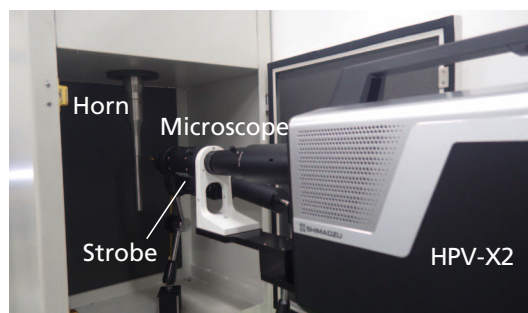
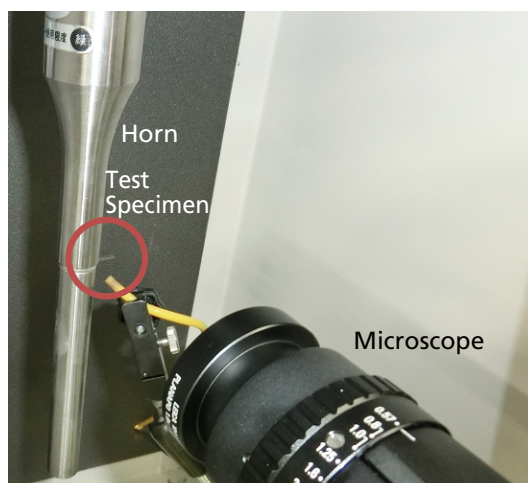
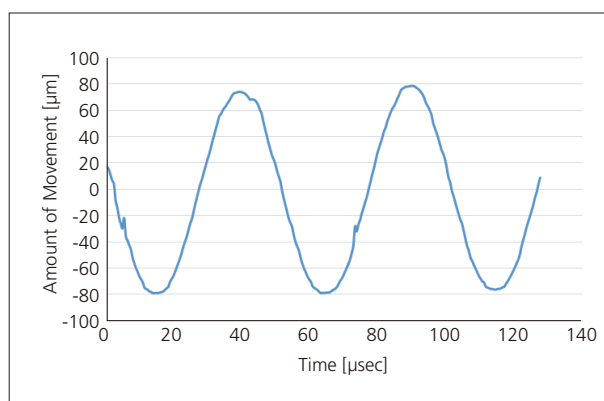
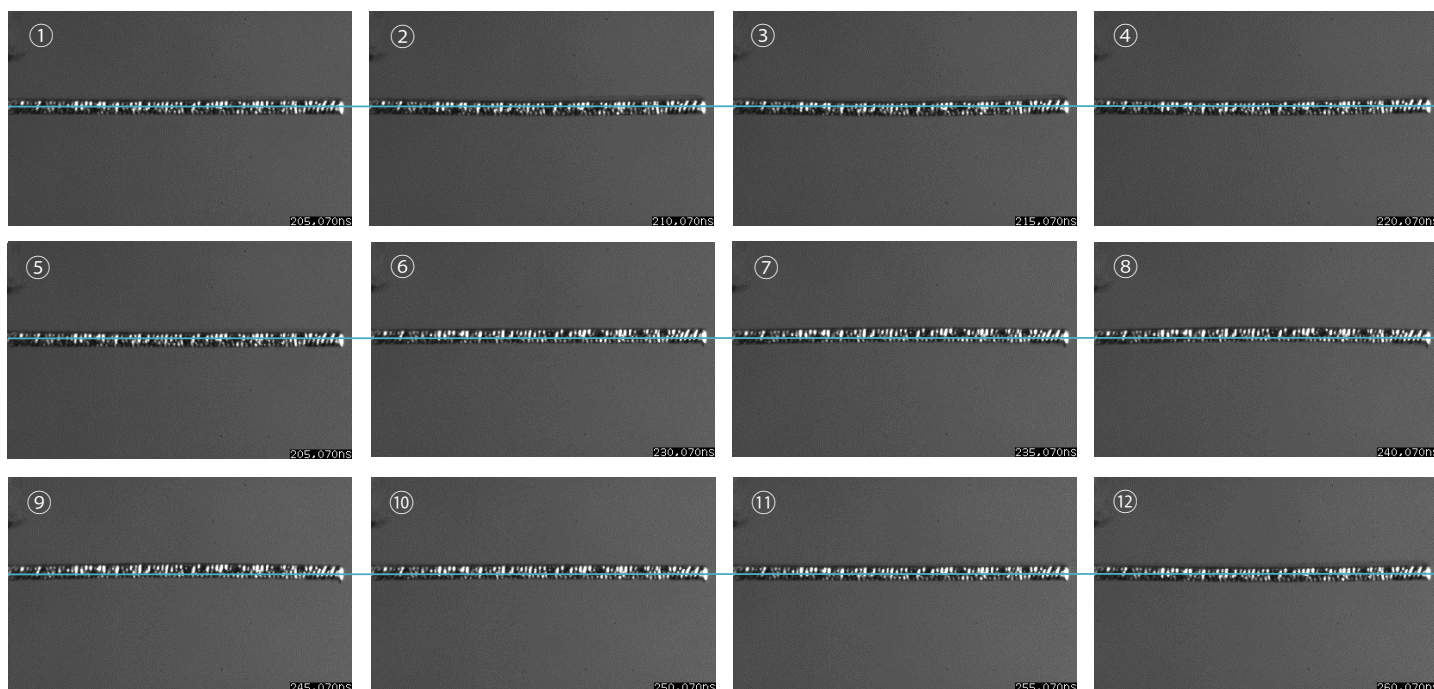

Fig. 3 Overview of Test
Fig. 4 Periphery of Specimen
Fig. 6 Amount of Movement of Specimen
Fig. 5 High-Speed Images (Imaging interval: 5 μs)
Fig. 3 shows an overview of the test setup, and Fig. 4 shows a close-up view of the vicinity of the specimen. The vibration generated by the actuator is amplified by the horn, causing the specimen to vibrate. Table 2 shows the measurement conditions. To obtain image data at more than 100 frames per cycle, the shooting speed must be set to two million frames/sec. Fig. 5 shows a series of captured images. The blue line traversing the images in Fig. 5 is situated at the center of the specimen in image (1). The central portion of the specimen is shifted in the downward direction as the images proceed from (1) to (3). Then, the center portion of the specimen shifts in the upward direction, reaching a maximum at image (9). From image (9), the specimen center descends once again, returning at image (11) to the same position as in image (1). From the above, the vibration cycle of the specimen was determined to be 20 kHz. Also, from Fig. 5, the specimen tip does not move very much, although it can be seen that the specimen is in a second-order bending mode due to movement of the test specimen center. Applying image processing software to the captured images permits determination of the range of movement of the test specimen. Here, we determined the amount of movement of the central part of the specimen. Fig. 6 shows the relationship between time and the amount of movement of the specimen center. Also, from Fig. 6, the amplitude in the bending test is determined to be about 80 μm , and the vibration frequency is determined to be 20 kHz.